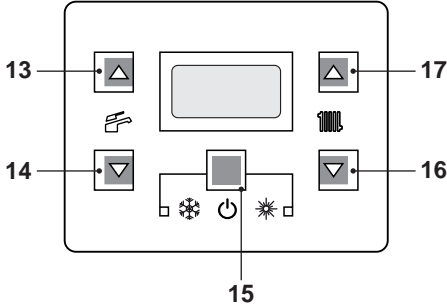
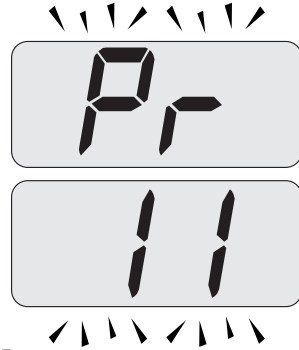
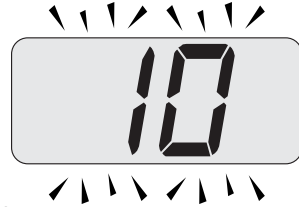

Fig. 7.23
Fig. 7.25
Fig. 7.26
- Enter in "programming mode" by pressing keys 15 - 16 - 17 (Fig. 7.23) for 10 seconds
- Scroll the various parameters using keys 16 or 17 until the letters **Pr** that alternate with code **11** are displayed on the LCD display, indicating that "parameter 11"(Fig. 7.25) has been activated.
- Press keys 15 and 17 (Fig. 7.23) at the same time until the value of parameter 11 (10=60 seconds) (Fig. 7.26) is displayed on the LCD display .
- By pressing key 15 (Fig. 7.23) confirmation of the inserted value is obtained.
- Press keys 15 and 16 (Fig. 7.23) at the same time to exit without changing the value (return to the parameters list Fig. 7.25)
- Press keys 15 - 16 - 17 (Fig. 7.23) at the same time for 10 seconds to exit the "programming mode".